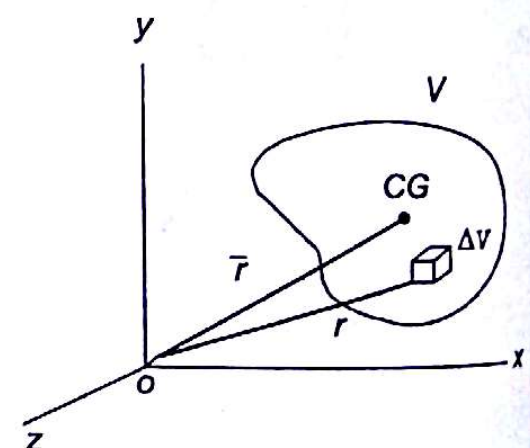

Fig. 5.9
The centre of gravity (CG) of a three dimensional body is determined by dividing the whole body into small elements ($\Delta V = \Delta x \times \Delta y \times \Delta z$) and expressing the weight W of the body attached at CG as equivalent to the system of distributed forces or $\delta W = \rho g \Delta V$, representing the weight of small elements (Fig. 5.9).